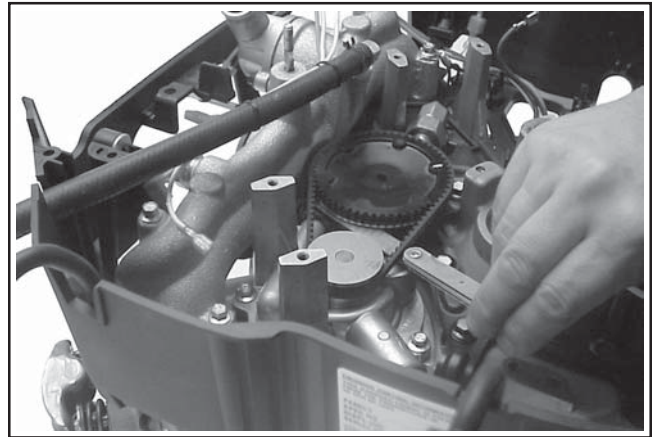
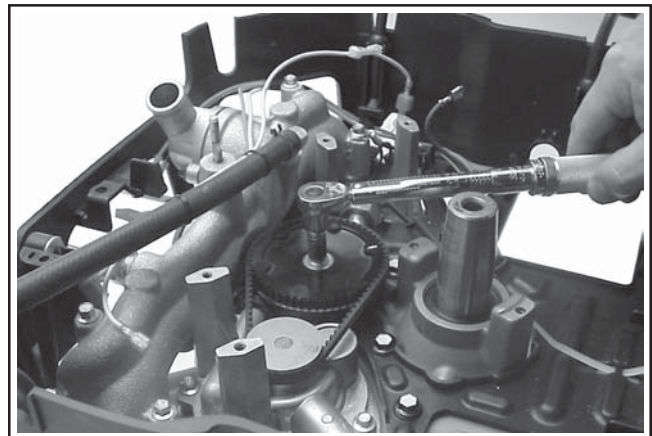

Figure 11-68. Checking Clearance of Pulley with Feeler Gauge.
Figure 11-69. Torquing Mounting Screw of Cam Pulley.
11. Check that there is at least **3 mm (1/8 in.)** clearance between the underside of the pulley, and the hose, tube, clamp assembly. See Figure 11-68. Remove the pulley and reposition the tube or clamps if required. Install the flat washer and hex. flange screw to secure the pulley in place. Torque the screw to **9.9 N-m (88 in. lb.)**. See Figure 11-69.